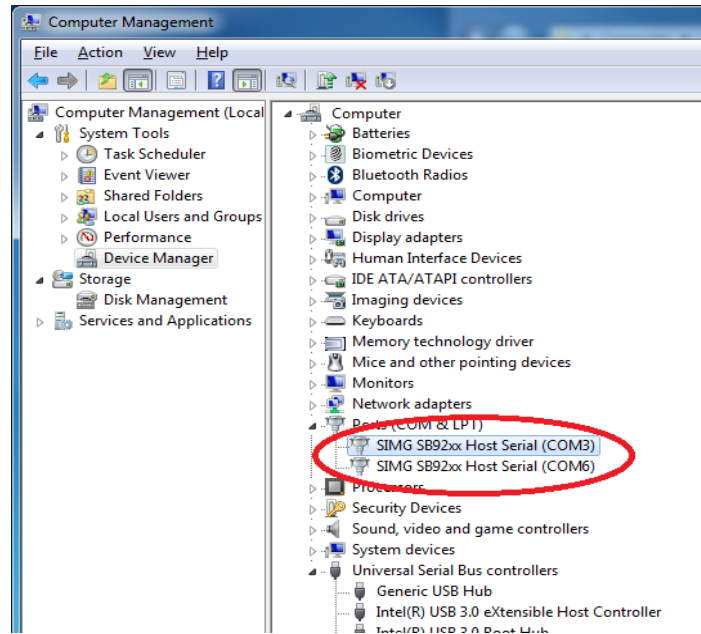

Figure 2.3. Virtual COM Ports Displayed in the Window Device Manager
8. Ensure the Windows Device Manager has recognized the two unique virtual COM Ports, as shown in Figure 2.3.